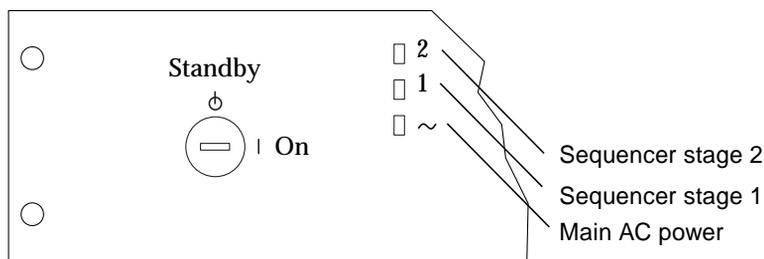

FIGURE 6-3 Front Sequencer Status Lights
6. Turn the key switch at the front of the rack to the On position (FIGURE 6-3).